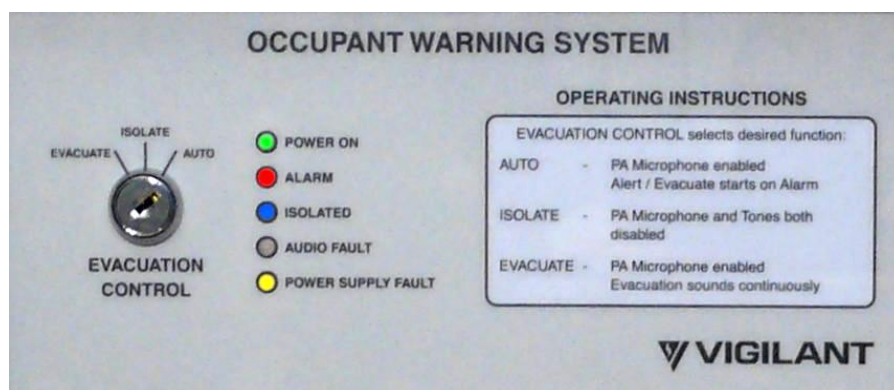

Figure 7. Inner Door Controls and Indicators
The BOWS has 5 front panel indicators (LEDs) and an Evacuation Control key switch (003) located on the inner front door (Figure 7), plus an emergency PA microphone with its press-to-talk (PTT) switch.